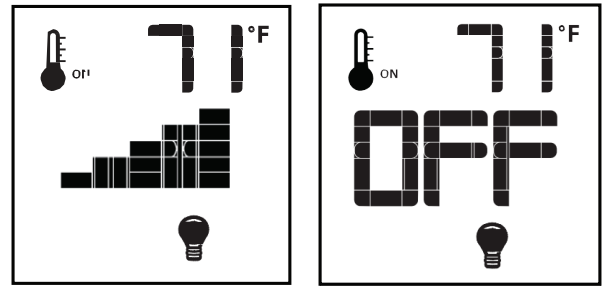

Fig. 63 Dimmer light control
The auxiliary function controls the AUX power outlet by the dimmable light control. To activate this function use the Mode Key (fig. 49) to index to the light bulb icon (fig. 63). The intensity of the output can be adjusted through six (6) levels. Use the Up/Down Arrow Keys (Fig.49) adjust the output level (fig. 63). A single “beep” will confirm reception of the command.